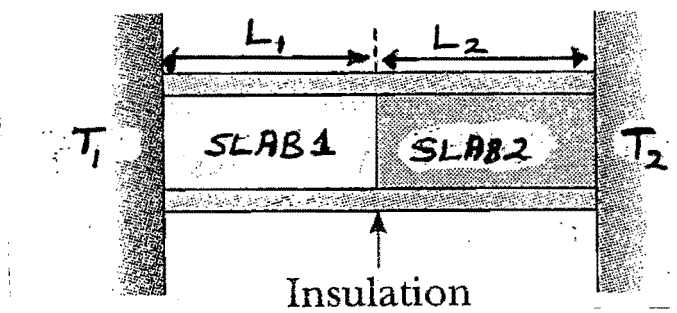

Fig. 1
- (a) With the aid of Fig. 1, derive an expression (at steady state) for the rate at which heat would be transferred through the two slabs made of different materials, slab 1 and slab 2, which have the same cross-sectional area,  $A$ . Assume that temperature  $T_1 > T_2$ .